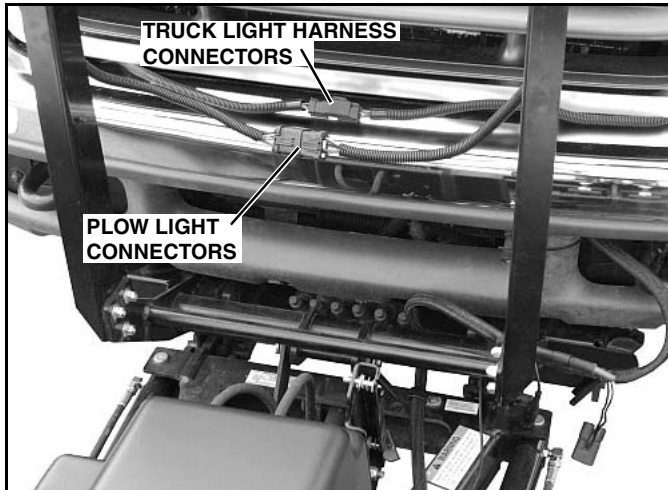

Figure 1-5
7. Unplug light harness connectors on truck, and disconnect plow light connectors, which had been plugged together for corrosion protection during storage (See Figure 1-5).